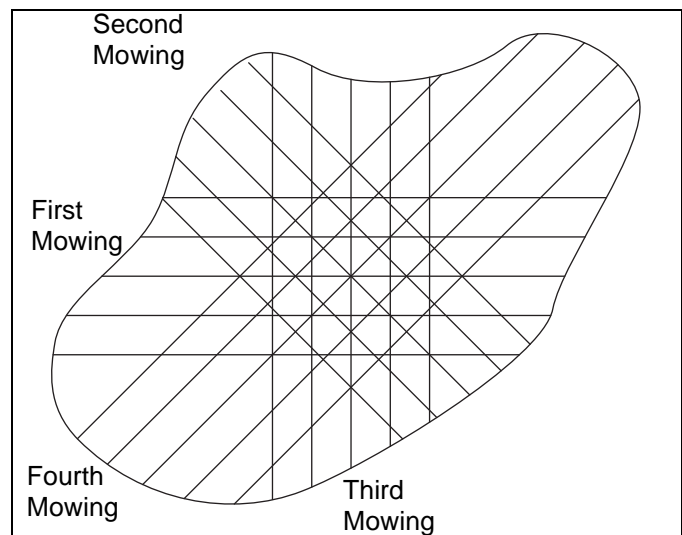

Figure 4D
5. For a more even playing surface and neater appearance, alter the mowing pattern each time a green is mowed. The patterns shown in **Figure 4D** are suggestions only, the operator or course superintendent can arrange patterns to suit each green.